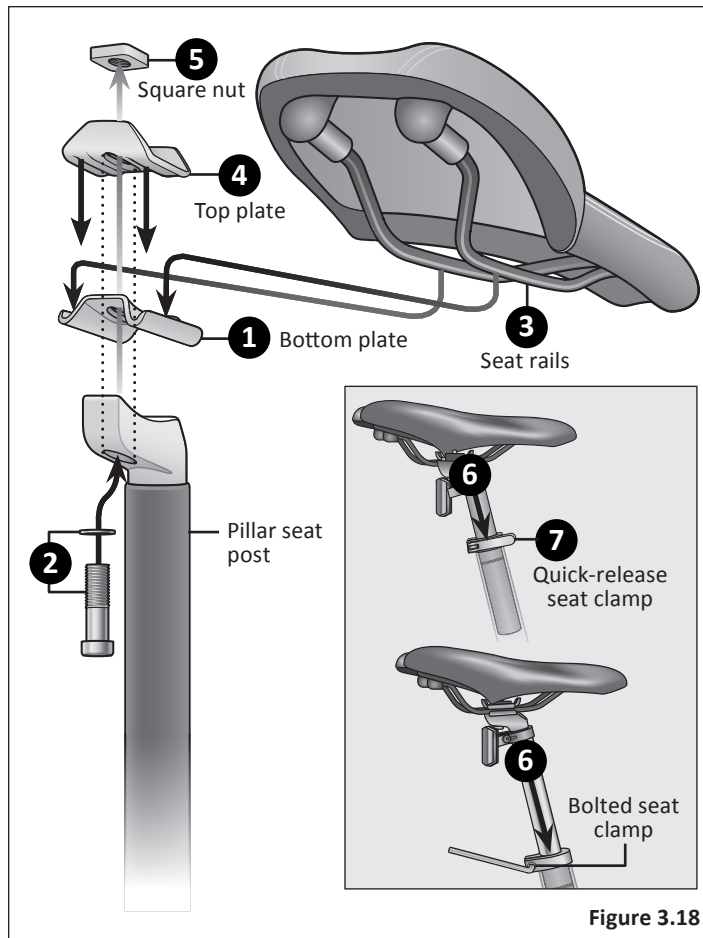

Figure 3.18
- ❶ Place the bottom plate on the pillar seat post. Be sure the holes in the bottom plate and the holes in the seat post are aligned. **Figure 3.18**
- ❷ Place the washer on the hex bolt and insert the bolt through the bottom hole of the pillar seat post and bottom plate.
- ❸ Place the rails of seat into the grooves of the bottom plate.
- ❹ Place the top plate over the top of the seat rails. The hex bolt should be inserted through the hole in the top plate.
- ❺ Insert the square nut onto the hex bolt and tighten completely.
- ❻ Insert the pillar seat post into the seat tube and adjust the seat height up or down until the rider feels they have control of the bicycle and is comfortable.